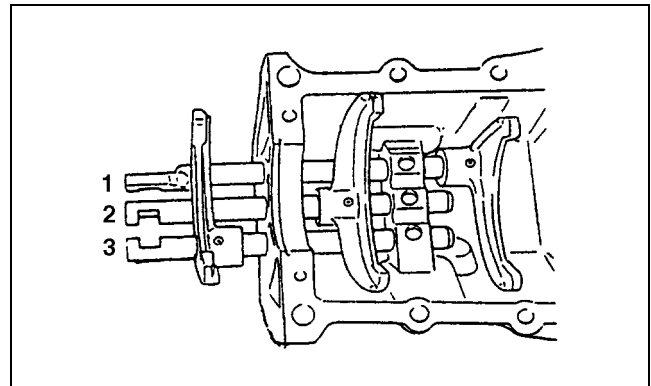

Figure 4G-23. Shifter Fork Assembly
- Holes for installing the interlock steel balls are in the side wall, next to the reverse shifter fork shaft, of the transmission case. Be sure to feed in one ball after another, positioning each ball between two adjacent shafts, as shown in Figure 4G-24.